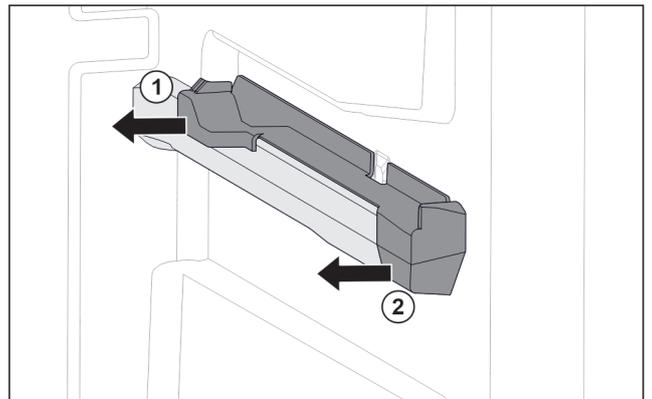

Fig. 41 Attachment on the right moulded rib
- ▶ Pull off attachment at the back sideways. Fig. 41 (1)
- ▶ Pull off attachment at the front sideways. Fig. 41 (2)